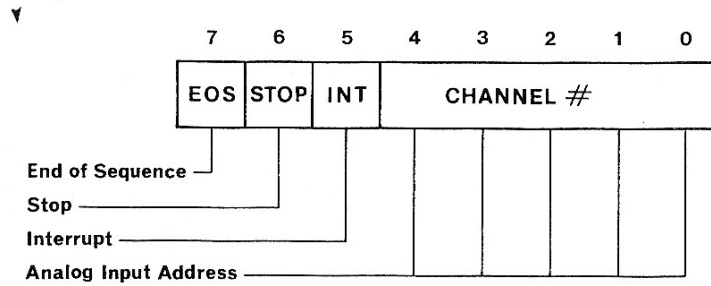

Figure 4-5
- Sequence RAM Bits (Figure 4-5)